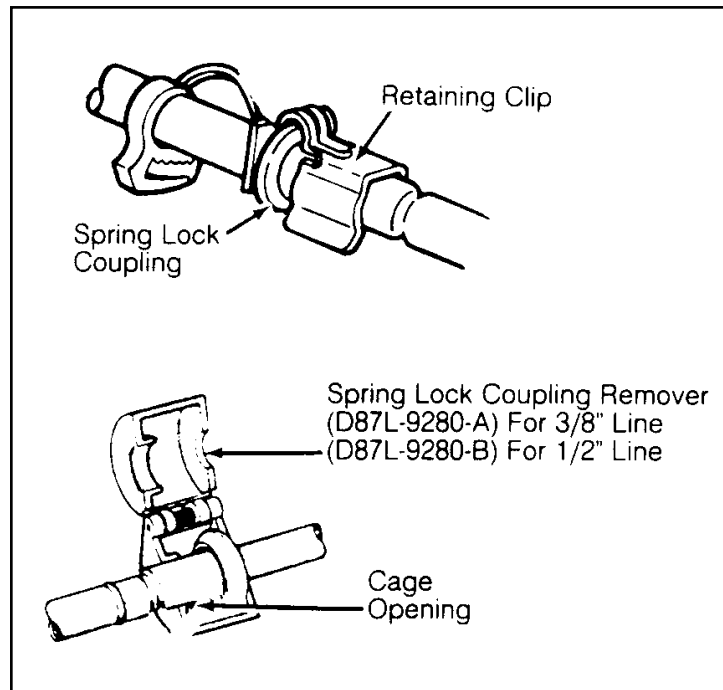

Figure 3
- 2. Disconnect necessary electrical connections, control cables, linkages, vacuum hoses, ventilation hoses, and coolant hoses at throttle body and manifold. **Do not disconnect fuel lines unless absolutely necessary. Special tooling and procedures are required to re-install fuel lines. See "Fuel Line Removal and Installation" Figure 3, page 4.**
3. Use Spring Lock Coupling Remover (D87L-9280-A) for 3/8" line or (9D87L-9280-B) for 1/2" line. Install spring lock coupling remover on fuel line coupling so it enters cage opening. See Figure 3.